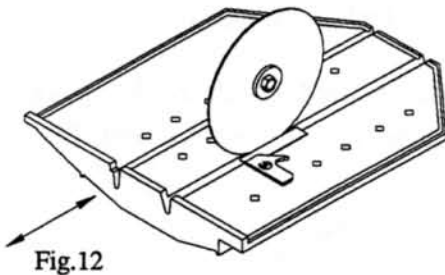

Fig.12
1. Move conveyor cart so that blade is approximately midway between front and back of cart surface (Fig. 12).